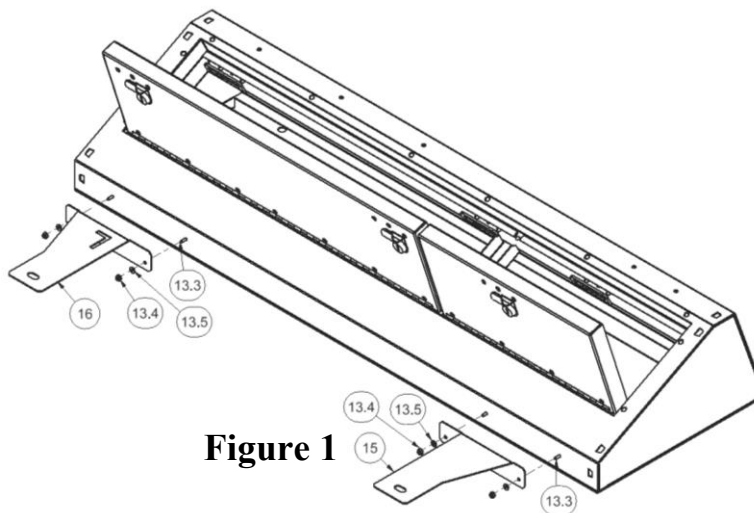

Figure 1
2. Assemble the rear mounting brackets (#15 and #16) to the enclosure using (4) #13.3 Screws, (4) #13.5 Washers, and (4) #13.4 Nylock Nuts (Figure 1).